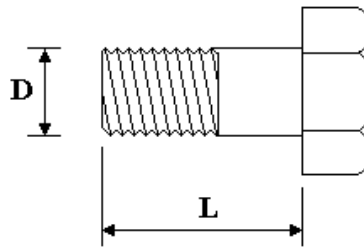

Figure 2
- B. Measure the length (L) and diameter (D) of the bolt and record the information on the DOT-96. See figure 2.